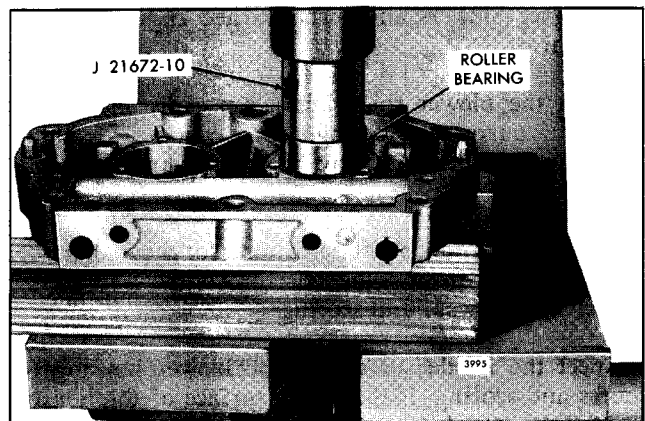

Fig. 13 - Installing Roller Bearing in Rear End Plate (Former Blower)
- a. Support the rear end plate (inner face down) on two wood blocks on the bed of an arbor press as shown in Fig. 13.